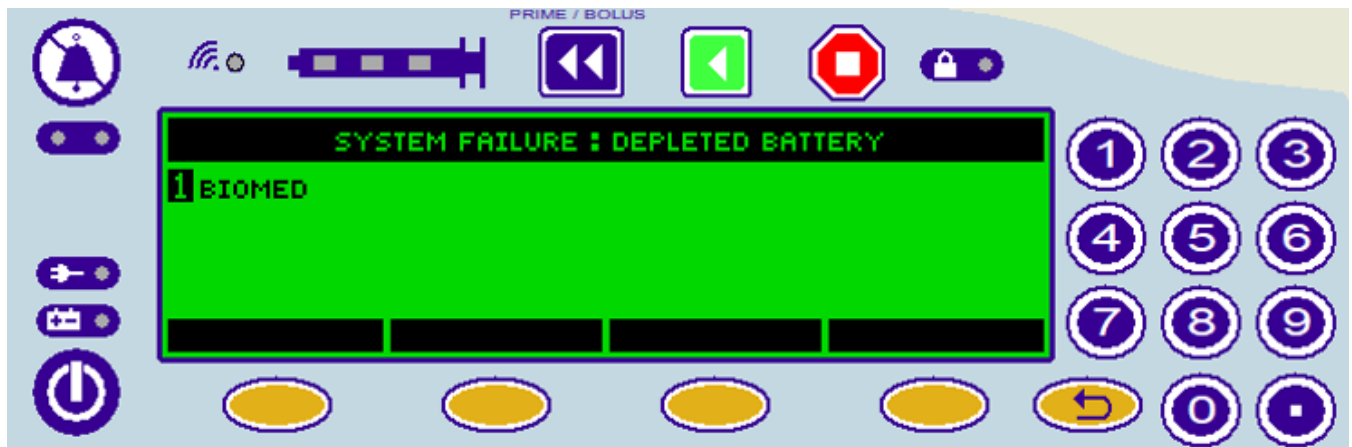

Figure 1: System Failure: Depleted Battery Alarm
If the pump is unplugged and running on battery, the pump assumes the battery is depleted and sounds an unexpected Depleted Battery (DB) alarm, as shown in the following figure (Figure 1), without the Primary Low Battery alarm being triggered. Even if the battery contains sufficient charge capacity, any ongoing infusion will be interrupted.